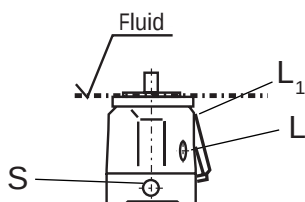

Fig. 1
a) If the minimum fluid level is equal to or above the pump mounting face leave ports "L", "L₁" and "S" open (see Fig.1).